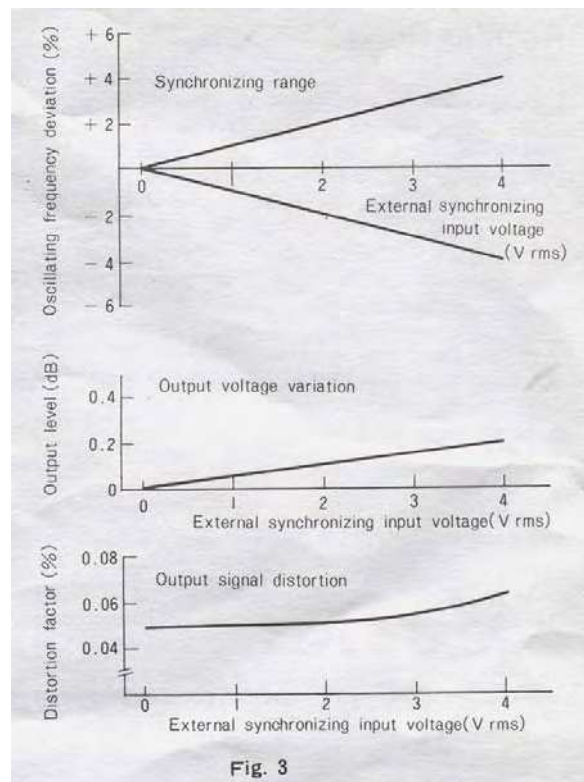

Fig. 3
1. Connect a voltmeter capable of measuring AC 1 V rms to OUTPUT terminal (4).
2. Set ATTENUATOR (3) to 0dB and then adjust AMPLITUDE (7) until the voltmeter indicates 1V rms. A voltage of 1V rms will appear at OUTPUT terminal (4).
3. Set ATTENUATOR (3) to -40dB. The voltmeter indicates about 0V, while a voltage of 10mV rms appears at OUTPUT terminal (4).
By applying an external sine wave signal to SYNC terminal (11), the oscillating frequency of AG-203 can be synchronized to the external signal. The synchronizing range is increased in proportion as the input voltage is increased as shown in Fig. 3, indicating that the synchronizing range is about ± 1 % per input voltage of 1 V.